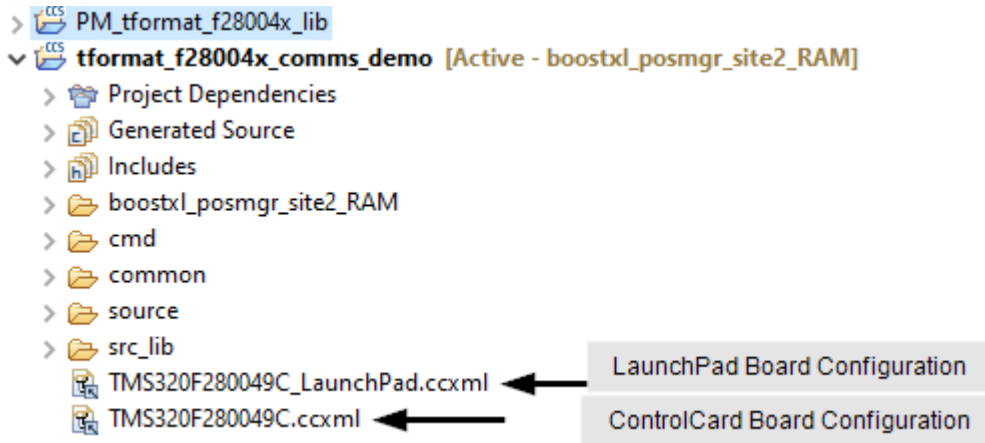

Fig. 3.2: Board Configurations
1. Some projects may include two board configuration files (.ccxml) as shown in Fig. 3.2. This occurs when the LaunchPad and ControlCard use different JTAG connections.